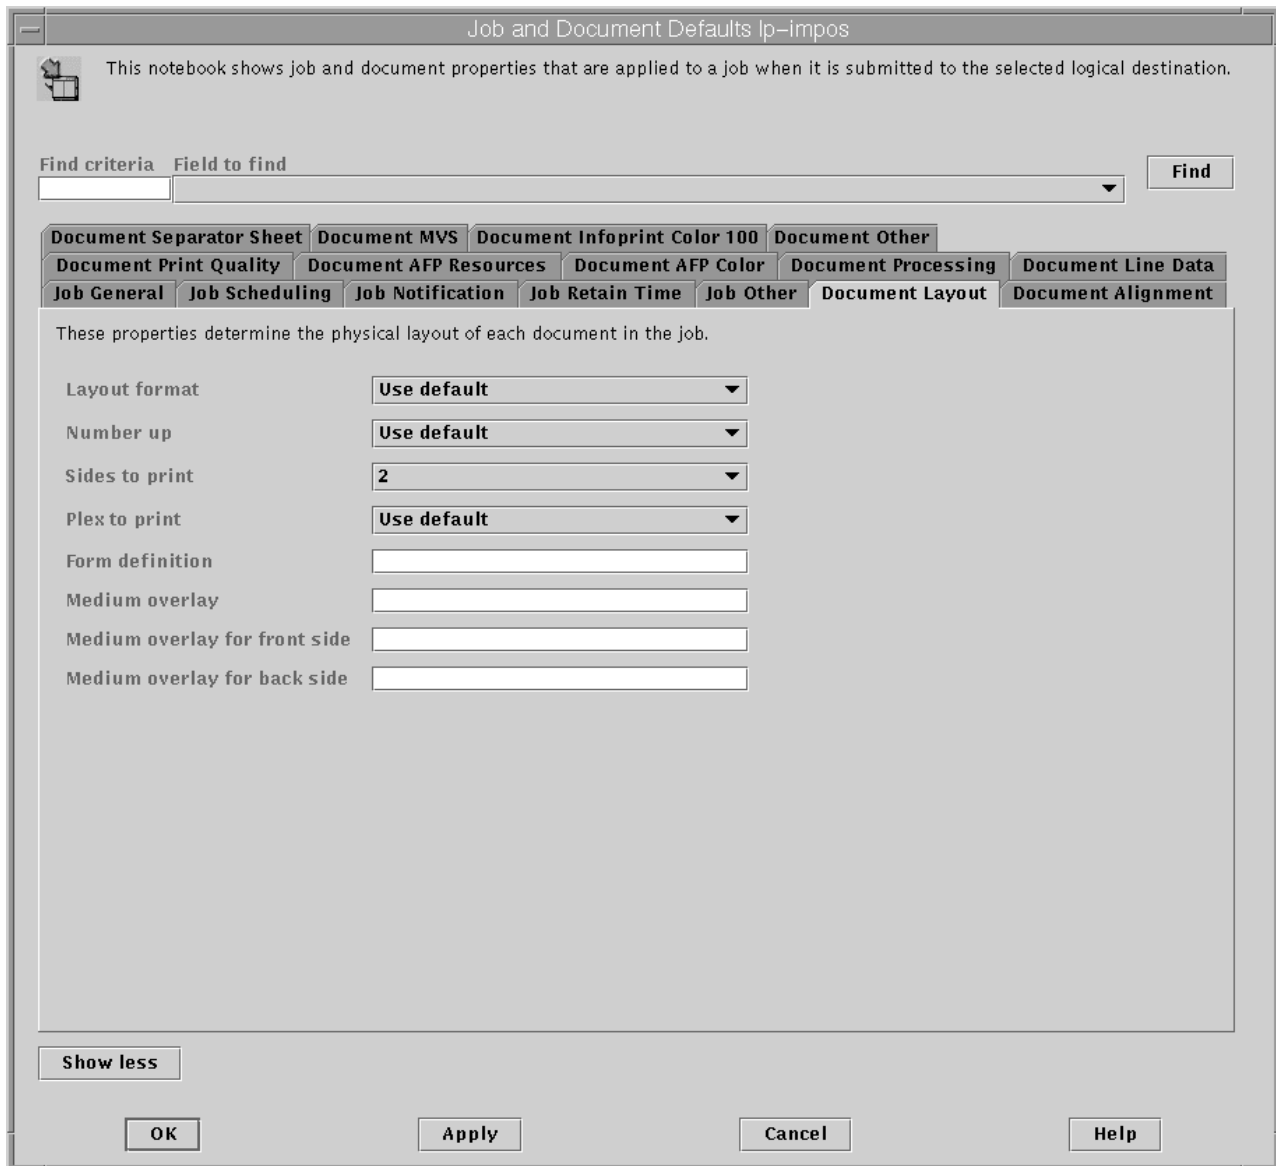

Figure 26. Document Layout tab view
- d. From the **Document Layout** tab view, you can specify duplex jobs by defining the Sides to print field (the **Sides** attribute) as 2 and allowing all other attributes to take the default, as shown in Figure 26 on page 121.